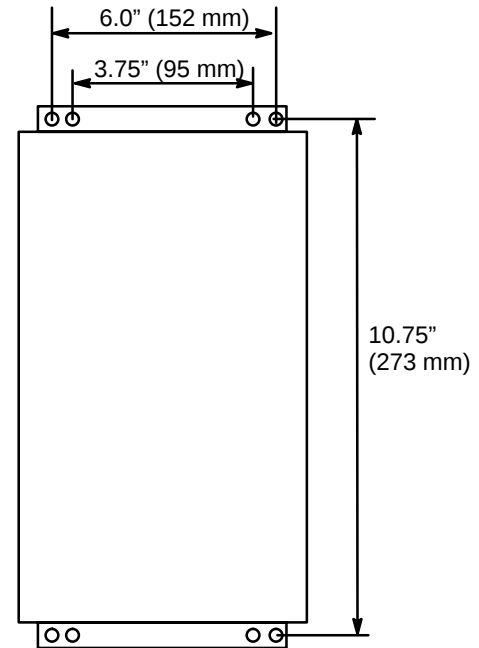

Fig 2 MOUNTING HOLE DIAGRAM
1. See the mounting diagram in Fig 2.